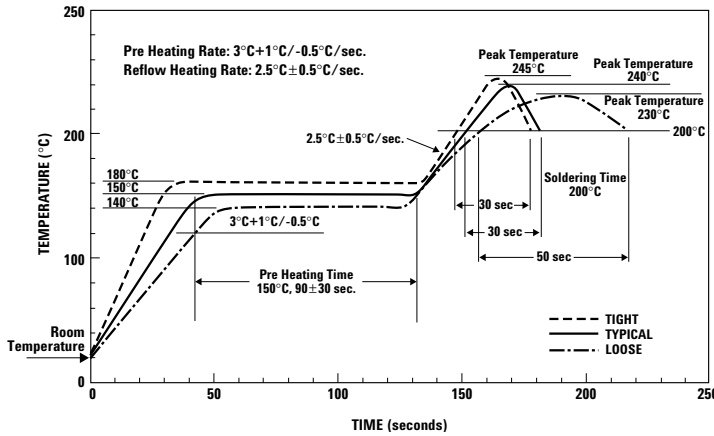

Figure 16. Temperature/Time Thermal Profile.
**Solder Reflow Process:** Only one soldering operation is recommended within the thermal profile shown in Figure 16. With infrared lamp heating, use precautions to avoid localized temperature rise in the resin. Also, the resin should not be